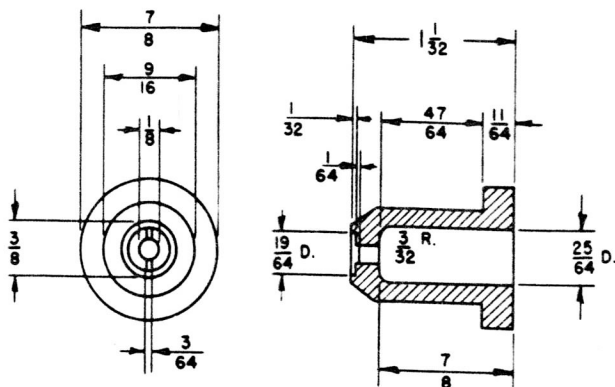

Figure 227—Locknut Screw Driver for Front Jewel
(2) LOCKNUT SCREW DRIVER FOR FRONT JEWEL.—This screw-driver is to be used for tightening the nut, locking the front jewel to the case. (See figure 227.)
(3) TEST DIALS.—Test dials for each type of